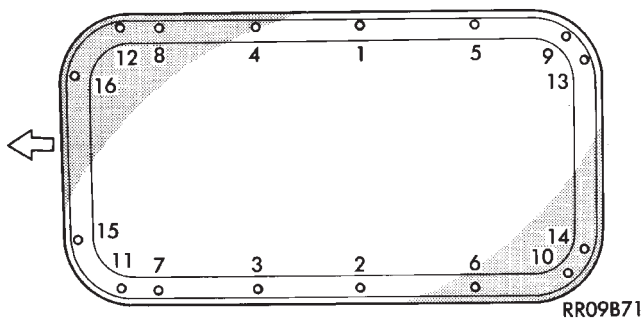

Fig. 4 Oil Pan Screw Tightening Sequence
(2) Install pan and tighten screws to 6 N·m (50 in. lbs.) in sequence shown in (Fig. 4).